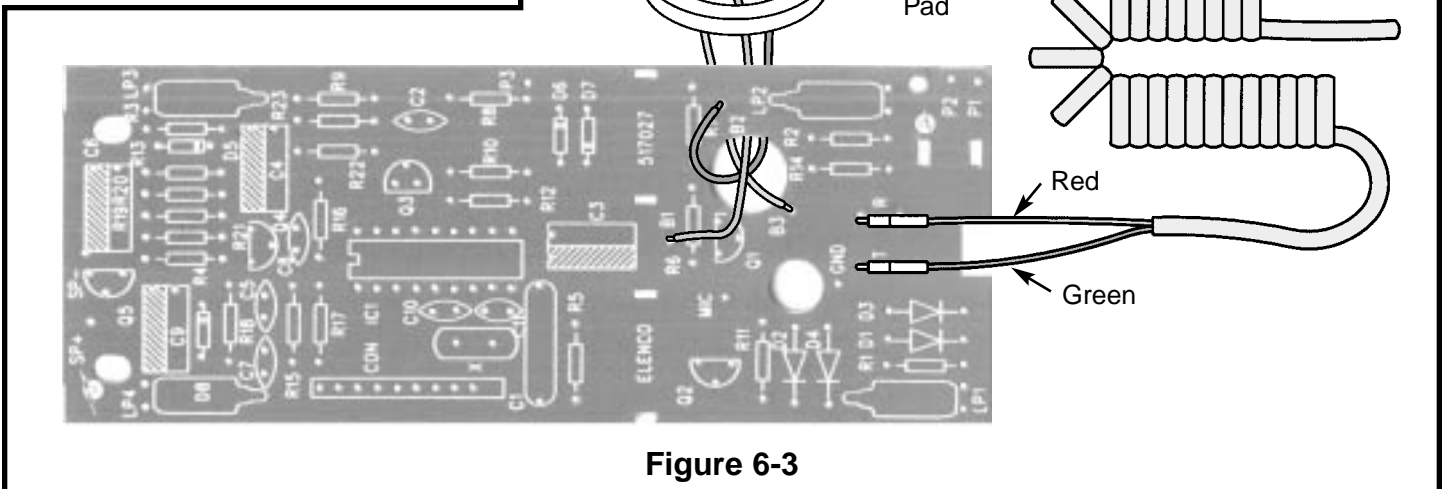

Figure 6-3
- Identify the telephone cord. Solder the red wire to the ring jumper and the green wire to the tip jumper as shown in Figure 6-3.
- Carefully solder the three 2" wires onto the buzzer as shown in Figure 6-3.
- Thread the three wires through the buzzer pad and then through the hole from the solder side of the PC board as shown in Figure 6-3.
- Solder the three wires to the PC board as shown in the Figure 6-3. The gray wire goes to B1, the orange wire goes to B2 and the red wire goes to B3.
- b) Check that the buzzer is wired as shown in Figure 6-3. Check that the telephone cord wires are soldered correctly.